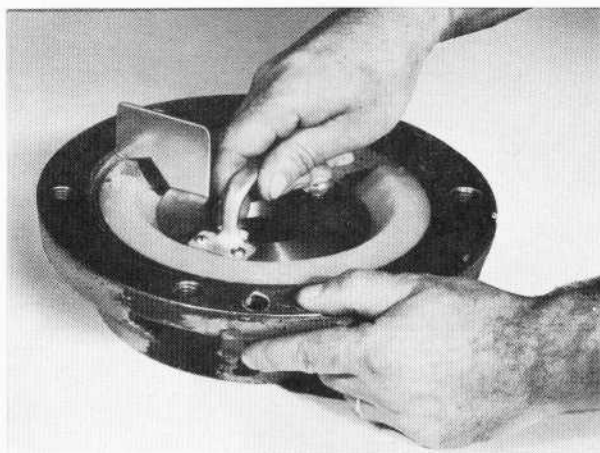

Fig. 6 - Application Of Grease Mask
- e. Rotate grease mask to form proper contour, keeping it seated, Fig. 6, - several turns may be required. Use spatula to fill in low spots with grease from mask blade.